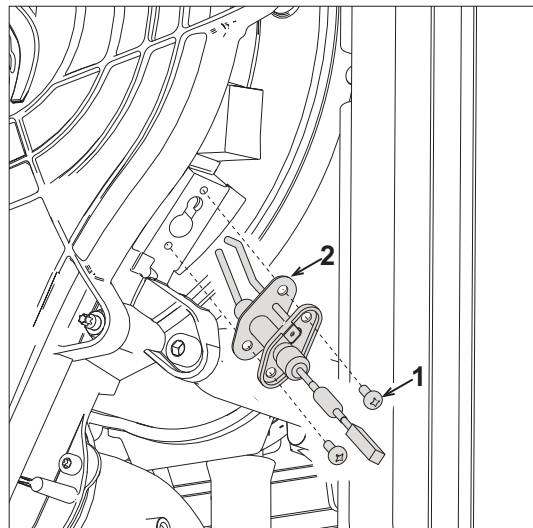

fig. 45
- To clean the exchanger, it is advisable to remove the electrode (see fig. 45)